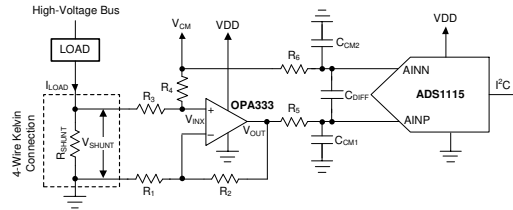

Figure 9-6. Low-Side Current Shunt Monitoring
Shunt-based, current-measurement solutions are widely used to monitor load currents. Low-side, current-shunt measurements are independent of the bus voltage because the shunt common-mode voltage is near ground. Figure 9-6 shows an example circuit for a bidirectional, low-side, current-shunt measurement system. The load current is determined by measuring the voltage across the shunt resistor that is amplified and level-shifted by a low-drift operational amplifier, OPA333. The OPA333 output voltage is digitized with ADS1115 and sent to the microcontroller using the I²C interface. This circuit is capable of measuring bidirectional currents flowing through the shunt resistor with great accuracy and precision.
- To level-shift the ground-referenced signal to allow bidirectional current measurements while running off a unipolar supply. The voltage across the shunt resistor, V_{SHUNT} , is level-shifted by a common-mode voltage, V_{CM} , as shown in Figure 9-6. The level-shifted voltage, V_{INX} , at the noninverting input, is given by Equation 5.
A shunt resistor (R_{SHUNT}) is an accurate resistance inserted in series with the load as shown in Figure 9-6. If the absolute voltage drop across the shunt, $|V_{SHUNT}|$, is a larger percentage of the bus voltage, the voltage drop can reduce the overall efficiency and system performance. If $|V_{SHUNT}|$ is too low, measuring the small voltage drop requires careful design attention and proper selection of the ADC, operational amplifier, and precision resistors. Make sure that the absolute voltage at the shunt terminals does not result in violation of the input common-mode voltage range requirements of the operational amplifier. The power dissipation on the shunt resistor increases the temperature because of the current flowing through the resistor. To minimize the measurement errors resulting from variation in temperature, select a low-drift shunt resistor. To minimize the measurement gain error, select a shunt resistor with low tolerance value. To remove the errors caused by stray ground resistance, use a four-wire Kelvin-connected shunt resistor, as shown in Figure 9-6.